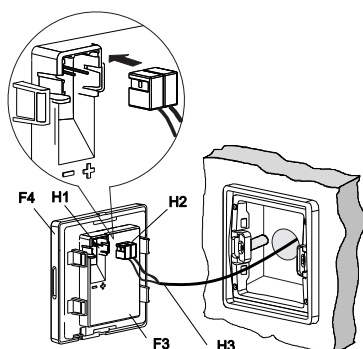

Figure 5: Connect KNX connector
- Insert the KNX connector (H2) to the touch sensor (see figure 5). Please be noted the polarity of bus connection with mark on housing.